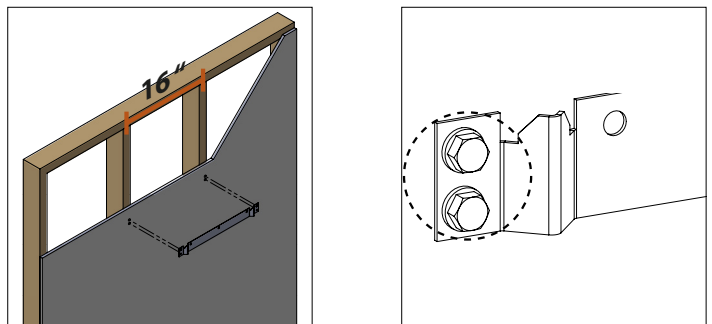

Figure 4 - Mounting the Bracket on 16" Center Studs
1. Position the upper wall mounting bracket on the wall. Ensure the bracket is level and the drilling holes are on stud. Then use the bracket as a template to mark four (4) drilling holes on the wall - two (2) on each side of the bracket. See Figure 4 for details.